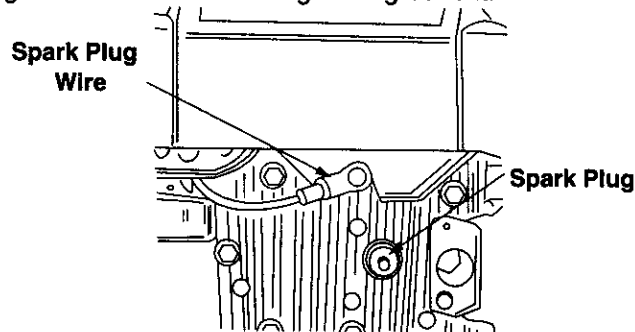

FIGURE 1
- Before setting up your lawn mower, disconnect the spark plug wire from the spark plug, and ground it against the engine. See Figure 1.